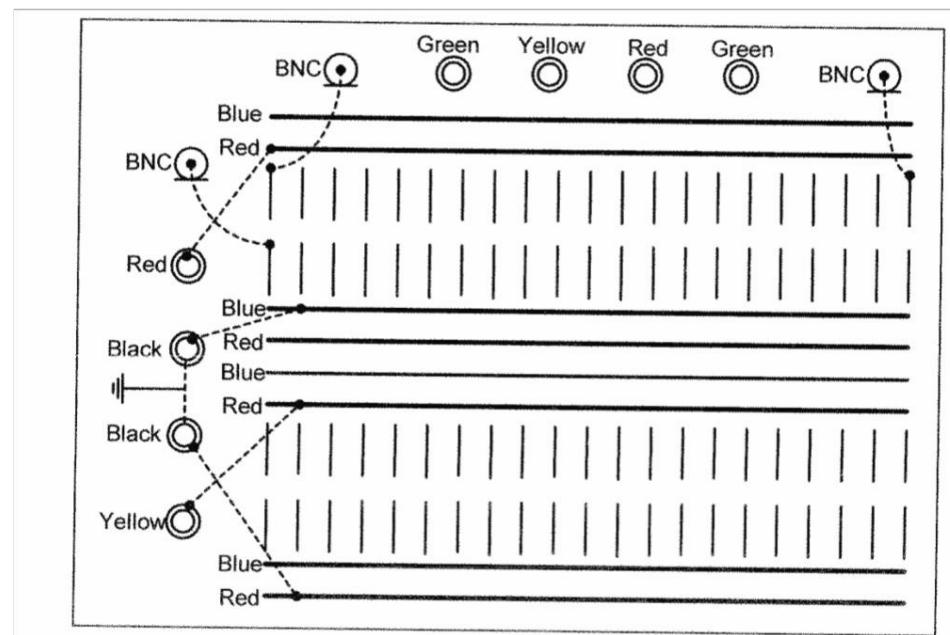

Fig. A-1
The protoboard may be viewed as a neatly arranged set of interconnecting wires, as indicated by thick lines in the drawing shown in Fig. A-1. Signals are brought to and from the protoboard via terminals (sockets) and BNC connectors. Internal connections between sockets and some of the protoboard "wires" are shown by dotted lines.
- By convention the **black** sockets, and the associated “ground” rail, are reserved for the ground (common or reference) line. For detailed ground wiring refer to the drawing of Fig. A-1 (thick lines).
Before each experiment carefully check the connections between the sockets and associated rails against Fig. A-1. Fix connections to the black, red, and yellow sockets if needed. Report broken BNC connections to a TA immediately.